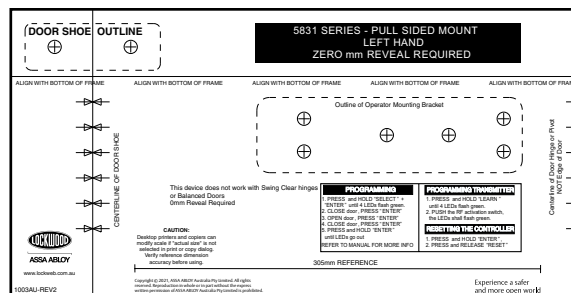

Figure 17
1. Select right hand or left hand template and become familiar with information. (Figure 17)